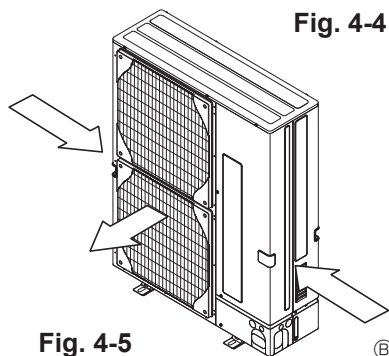

Fig. 4-5
- Position the unit so that the air outlet blows perpendicularly to the seasonal wind direction, if possible. (Fig. 4-5)
(2) When installing a single outdoor unit (Refer to the next page)